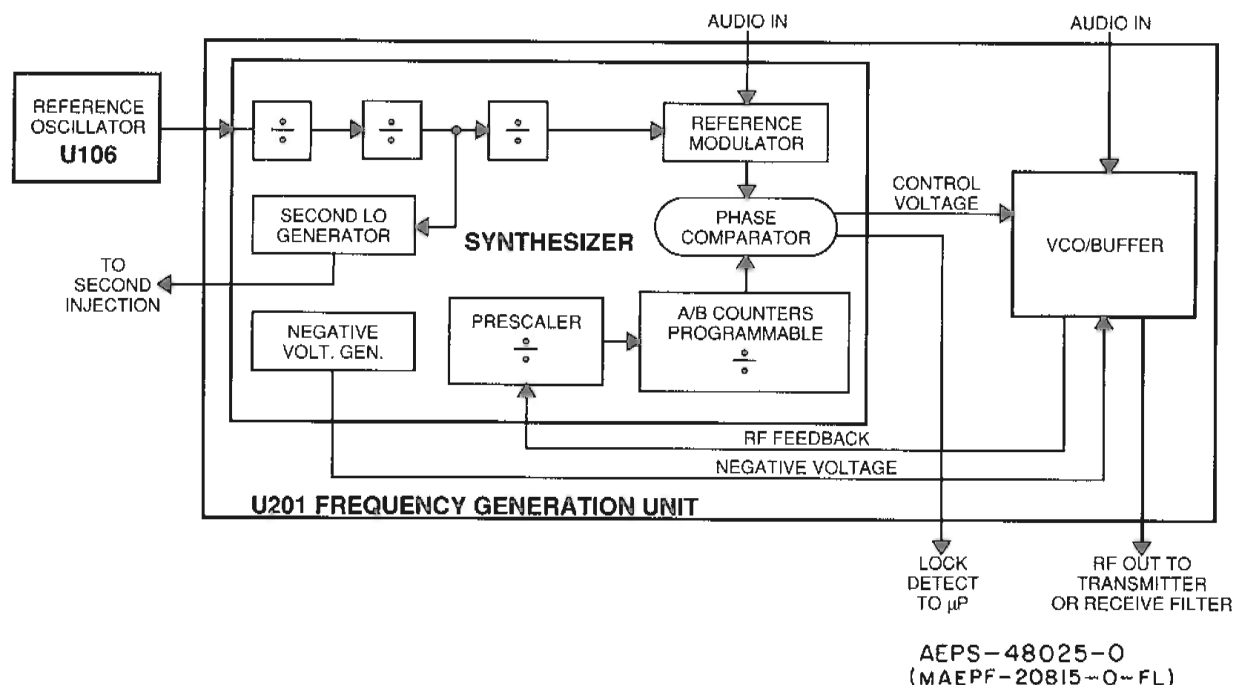

Figure 2. Frequency Generation Circuits
b. Frequency Generation and Distribution Circuits (See Figure 2)